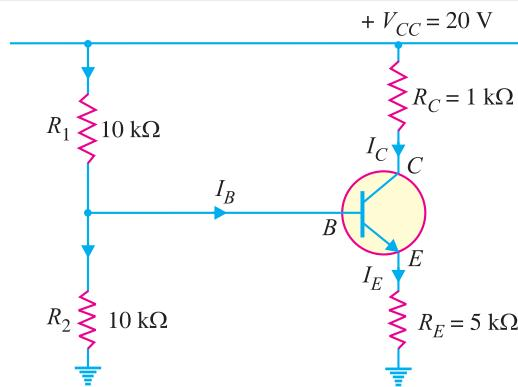

Fig. 9.27
**Example 9.22.** Calculate the emitter current in the voltage divider circuit shown in Fig. 9.27. Also find the value of  $V_{CE}$  and collector potential  $V_C$ .